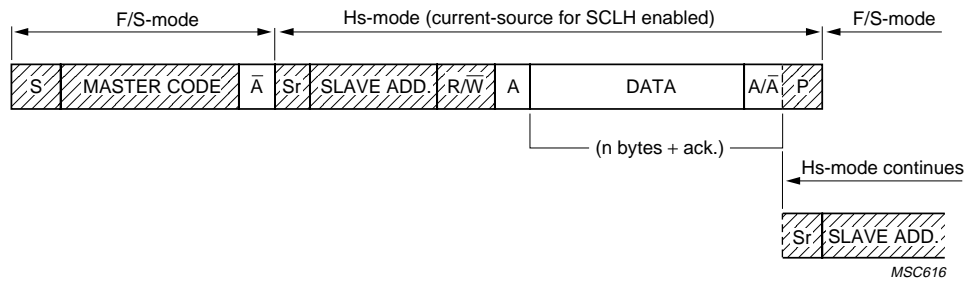

Fig.29 Data transfer format in Hs-mode.
The master code has two functions, as shown in Figs 29 and 30, it allows arbitration and synchronization between competing masters at Fast-mode speeds, resulting in one winner. Also the master code indicates the beginning of an Hs-mode transfer.
A write sequence after the Hs-mode is selected is given in Fig.29. The sequence is initiated with a START condition (S) from the I2C-bus master which is followed by the slave address. All slaves with the corresponding address acknowledge in parallel, all the others will ignore the I2C-bus transfer.